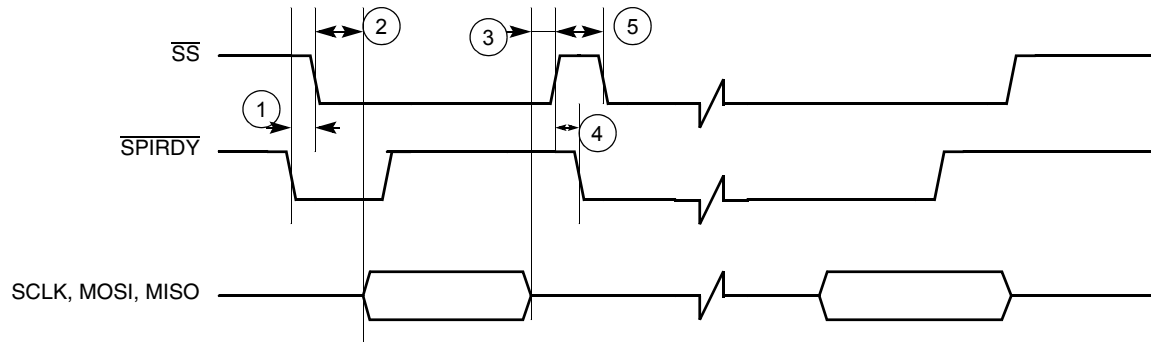
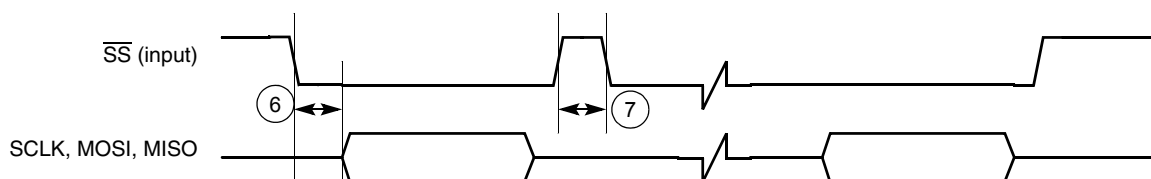

Figure 31. Master SPI Timing Diagram Using $\overline{SPI_RDY}$ Edge Trigger
Figure 35. Slave SPI Timing Diagram FIFO Advanced by \overline{SS} Rising Edge
To utilize the internal transmit (TX) and receive (RX) data FIFOs when the SPI 1 module is configured as a master, two control signals are used for data transfer rate control: the \overline{SS} signal (output) and the $\overline{SPI_RDY}$ signal (input). The SPI 1 Sample Period Control Register (PERIODREG1) and the SPI 2 Sample Period Control Register (PERIODREG2) can also be programmed to a fixed data transfer rate for either SPI 1 or SPI 2. When the SPI 1 module is configured as a slave, the user can configure the SPI 1 Control Register (CONTROLREG1) to match the external SPI master's timing. In this configuration, \overline{SS} becomes an input signal, and is used to latch data into or load data out to the internal data shift registers, as well as to increment the data FIFO. Figure 31 through Figure 35 show the timing relationship of the master SPI using different triggering mechanisms.
Table 14. Timing Parameter Table for Figure 31 through Figure 35